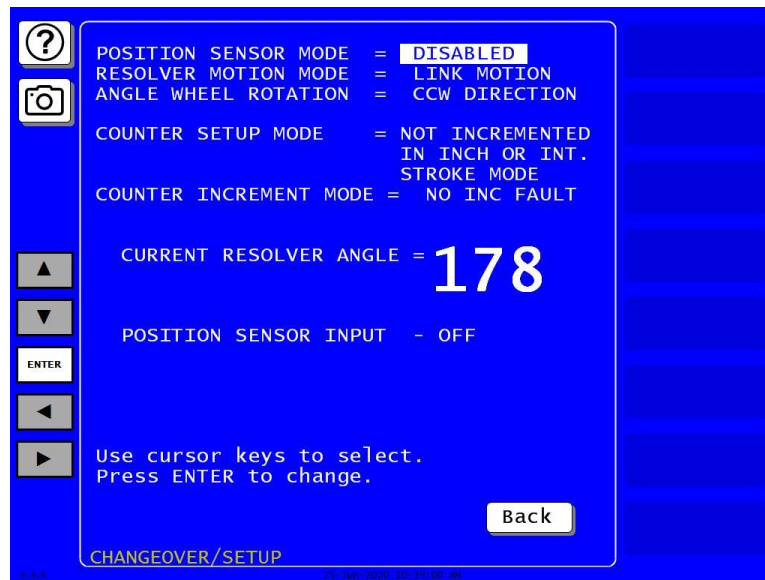

Figure 2-22. Position Sensor Screen
4. Select “INITIALIZATION MENU”, then press “POSITION SENSOR” button. The Position Sensor screen, shown in Figure 2-22, displays.